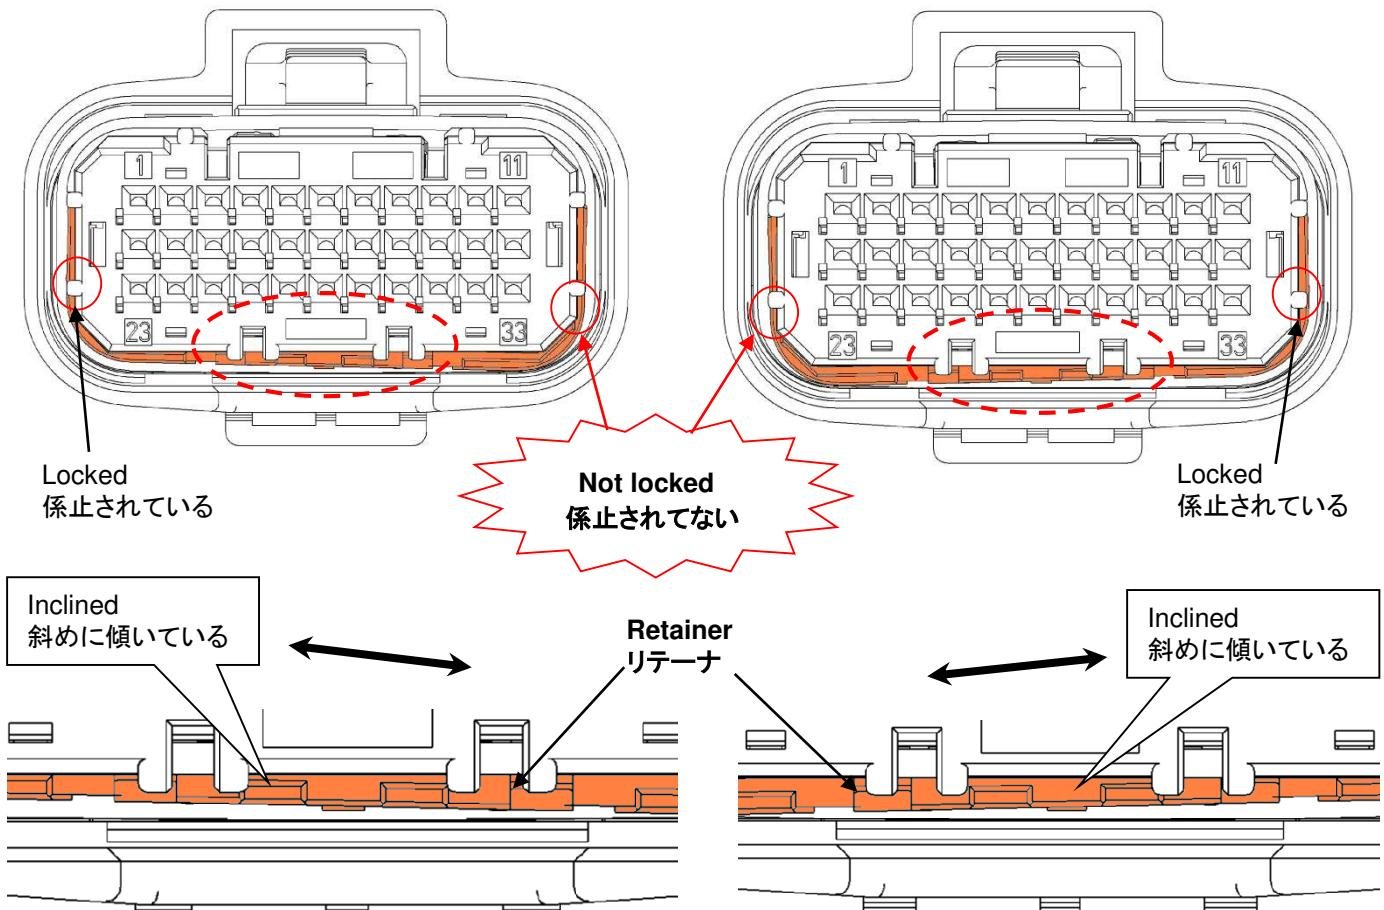

Fig.13
**NOTE** When detect the improper lock condition of the retainer, it is not placed in the Final Lock Condition. Please push the center of the retainer again until audible sounds hearing. (See Fig.13)
再度リテーナの中央を、音がするまで押し込んで下さい。(図 13 参照)